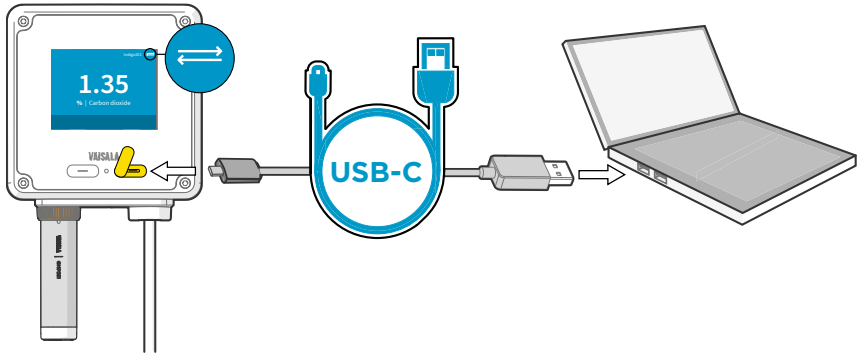

Figure 6 Connecting Indigo200 transmitter to Insight PC software with USB-C cable
5. In transmitter models with a display, the USB connection icon (see Figure 6 \(page 15\)) appears on the top right corner of the transmitter display when the USB cable connection is active.